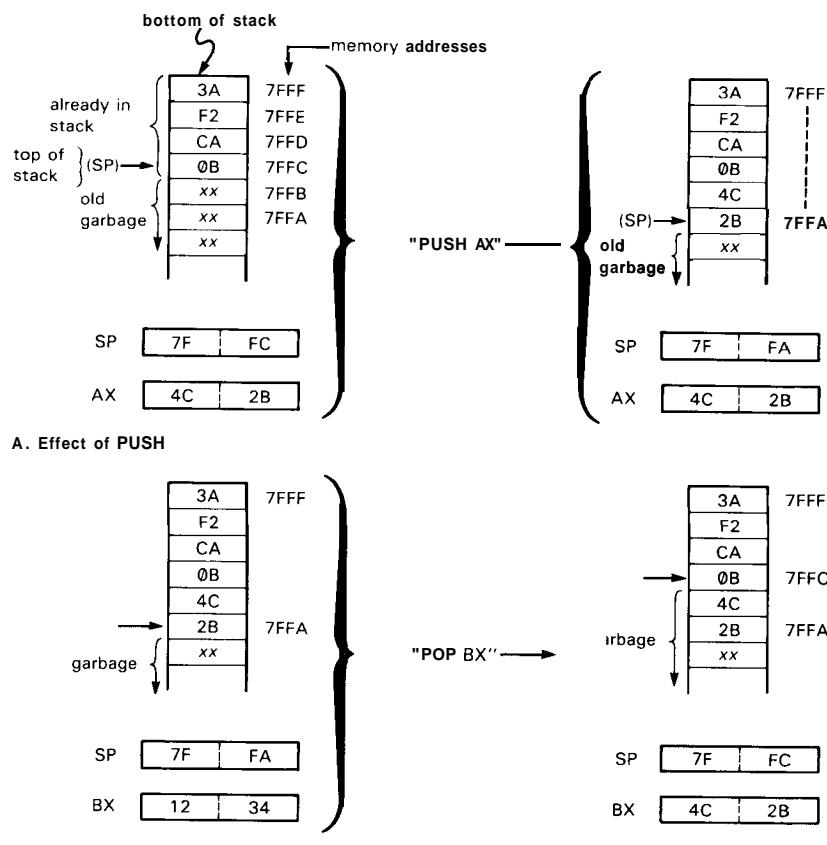

Figure 10.4. Stack operation.
Figure 10.4 shows how it works. The stack lives in ordinary RAM, with the CPU's stack pointer (SP) keeping track of the location of the current "top" of the stack. The 8086 stack holds 16-bit words and grows down in memory as you push data onto it. The SP is automatically decremented by 2 before each PUSH, and *incremented* by 2 after each POP. Thus, in